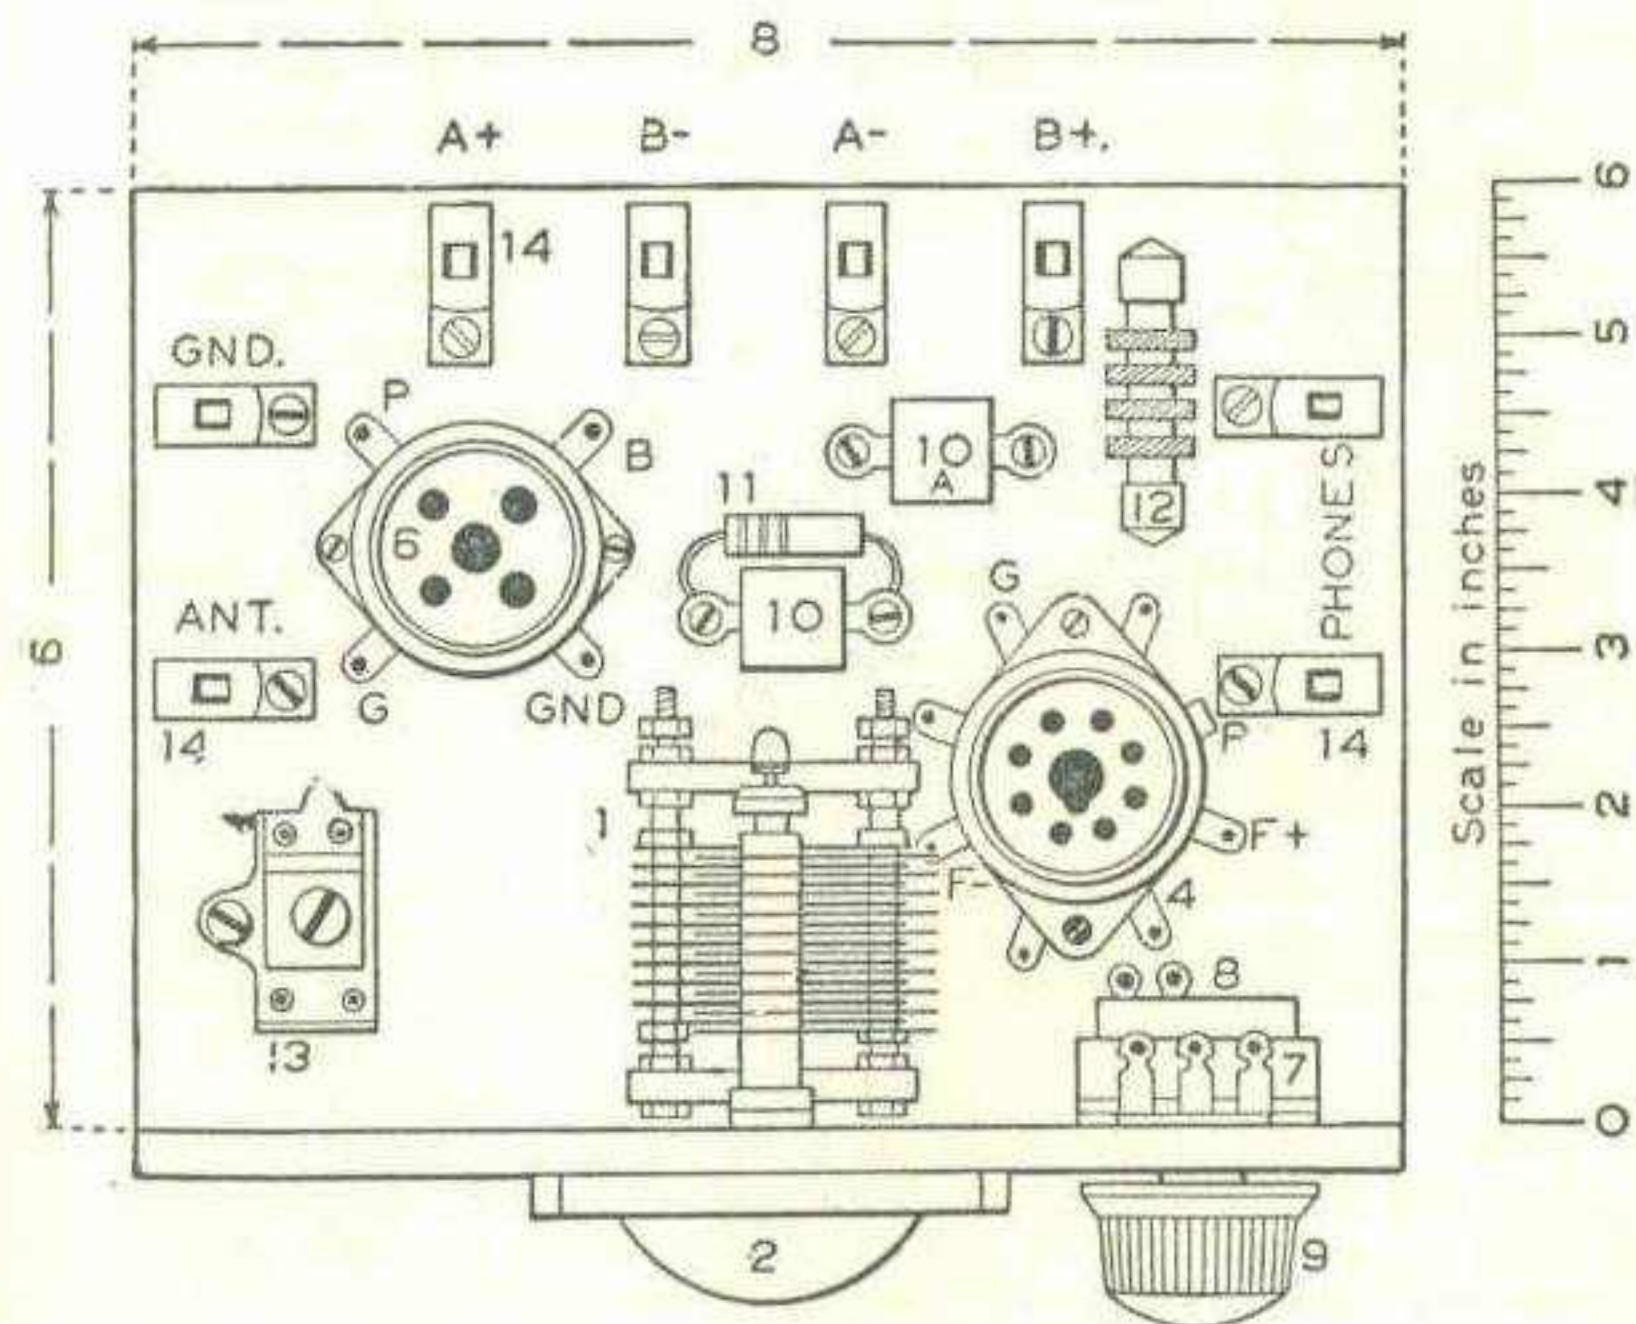

FIG. 220. — Plan for Mounting the Parts on the Base and Panel.
The two sockets (4 and 6), the trimmer condenser (13), the two fixed condensers (10), the high-frequency choke and the terminals or binding posts should be fastened to the base in the position shown in the plan in Fig. 220. The illustration includes a scale. By using this as a measure, the exact location of any of the parts on the base can be determined.
It is necessary to make the battery connections as described above and as indicated by the plus and minus signs in Figs. 220 and 222 or the receiver will not operate. The center terminal on both a flashlight cell and a No. 6 dry cell is the positive terminal. The terminals on radio "A" and "B" batteries are marked + and —.